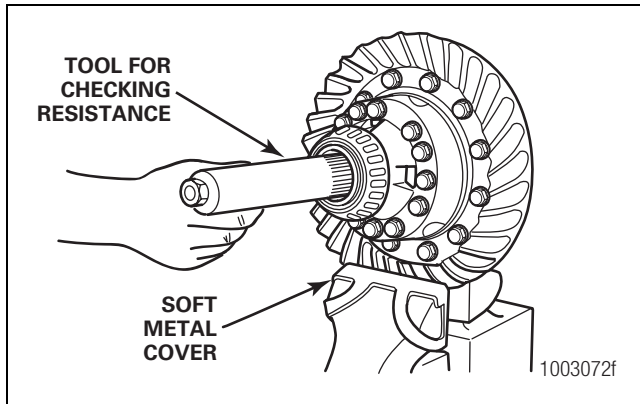

Figure 5.44
2. Place the differential and ring gear assembly in a vise. Install soft metal covers over the vise jaws to protect the ring gear. Figure 5.44.
3. Install the tool into the differential until the splines of the tool are engaged with one side gear. Figure 5.44.